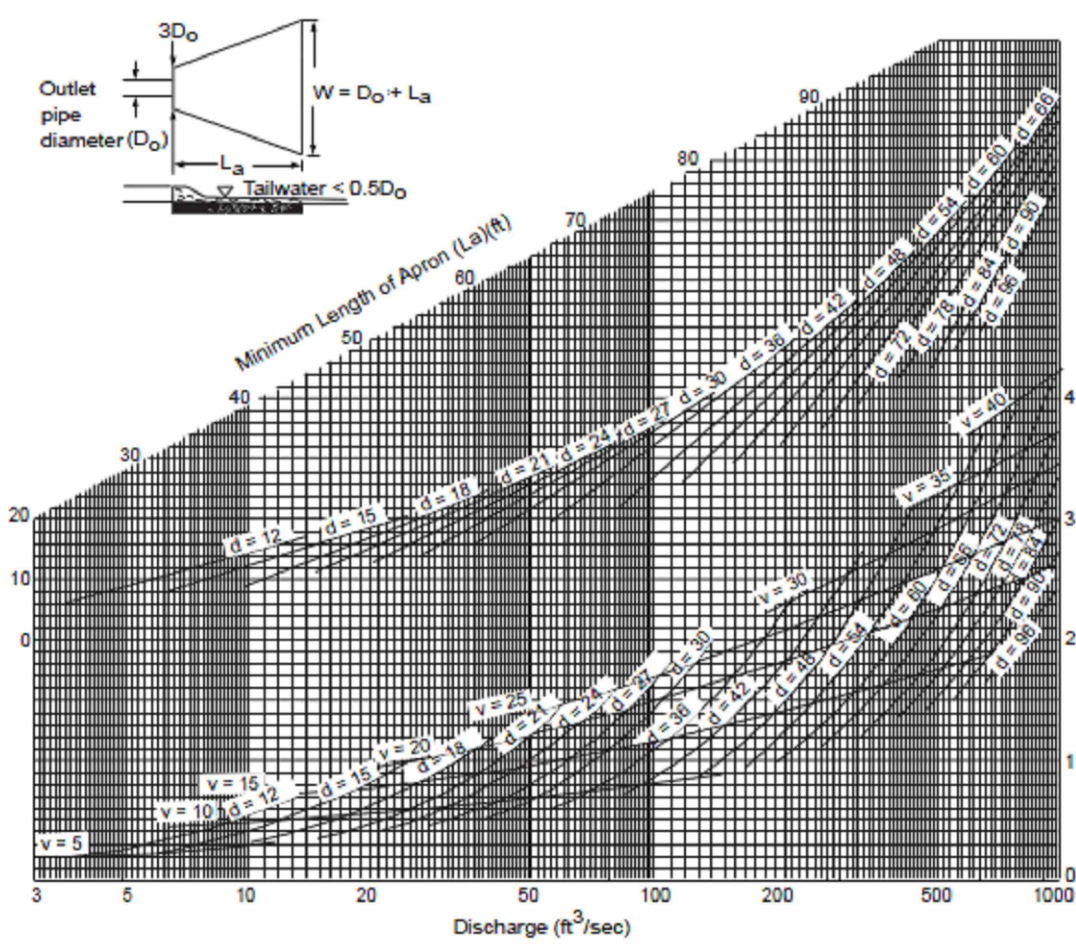

Figure 6-34.1 - Design of Outlet Protection From a Round Pipe Flowing Full, Minimum Tailwater Condition (Tw < 0.5 Diameter)
The apron length and d50, stone median size, shall be determined from the curves according to tailwater conditions. Minimum Tailwater- Use Figure 6-34.1 Maximum Tailwater- Use Figure 6-34.2 Maximum Stone Size = 1.5 x d50 Apron Thickness = 1.5 x dmax
- For a Minimum Tailwater Condition, the downstream end of the apron shall have a width equal to the pipe diameter plus the length of the apron. Refer to Figure 6-34.1. For a Maximum Tailwater Condition, the downstream end shall have a width equal to the pipe diameter plus 0.4 times the length of the apron. Refer to Figure 6-34.2.